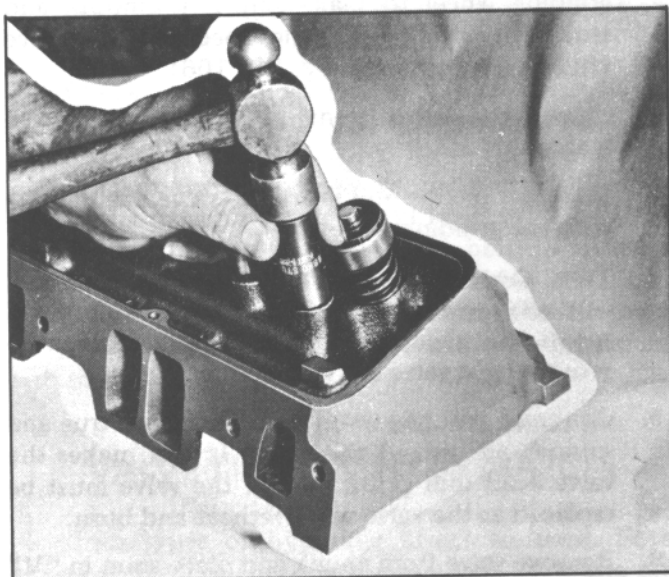

Fig. 104. Installing Rocker Arm Stud
3. Coat press-fit area of stud with hypoid axle lubricant. Install new stud, using tool J-6880 as a guide. Gauge should bottom on head (Fig. 104).